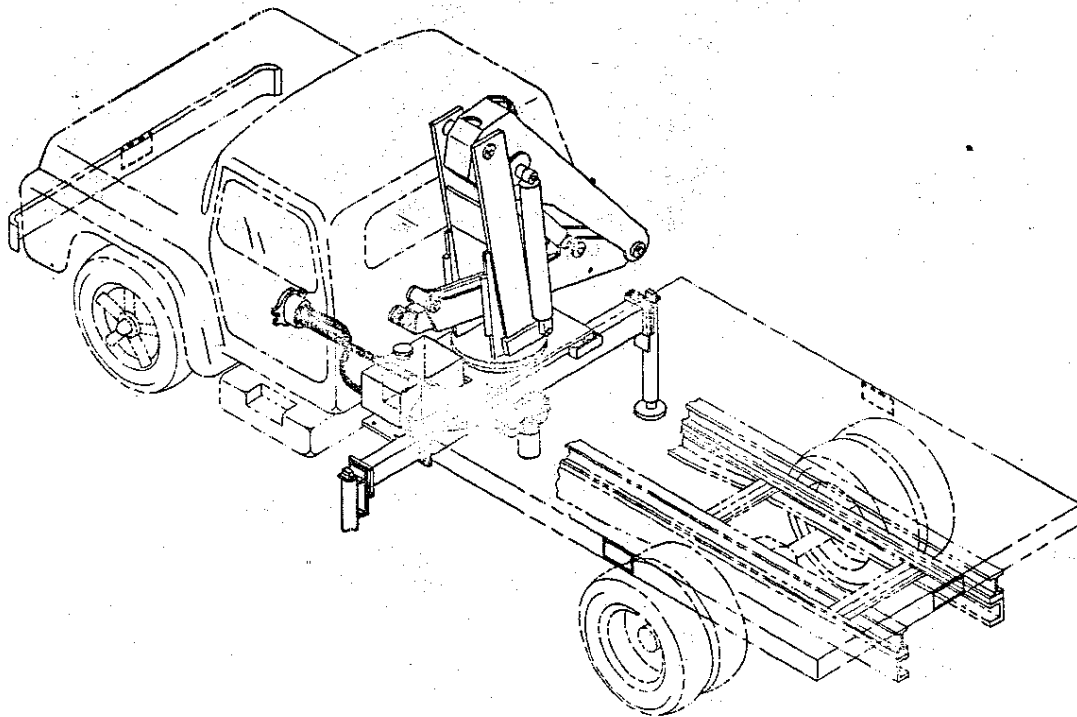

Fig. D-4
14. Install Electrocuton placards as shown below in Fig. D-4.